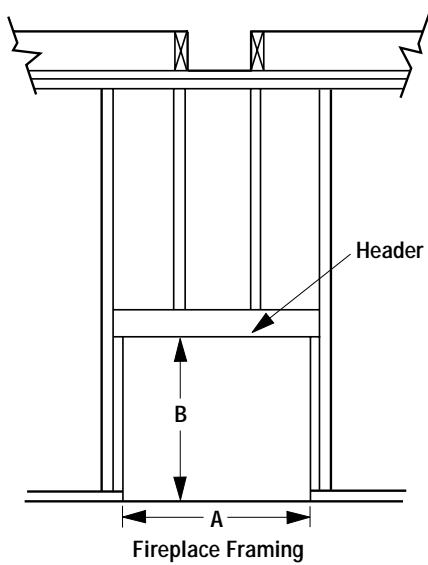

Figure 4
**Step 1. Construct the Appliance Framing** - Frame appliance enclosure as illustrated in *Figures 4 through 7* on page 5.